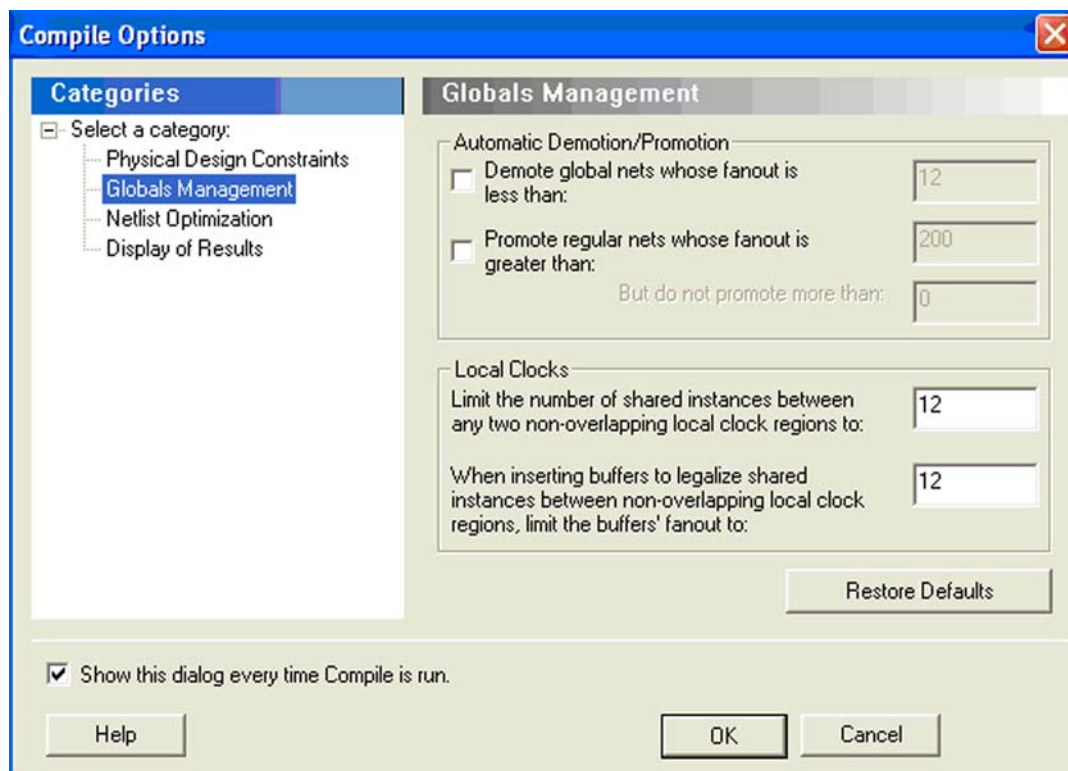

Figure 3-18 • Globals Management GUI in Designer
2. If some signals have a very high fanout and are candidates for global promotion, promote those signals to global using the compile options or PDC commands. Figure 3-18 on page 70 shows the Globals Management section of the compile options. Select **Promote regular nets whose fanout is greater than** and enter a reasonable value for fanouts.